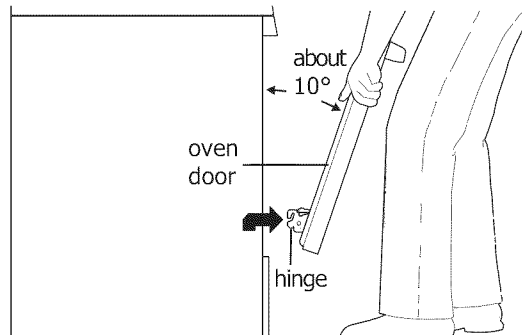
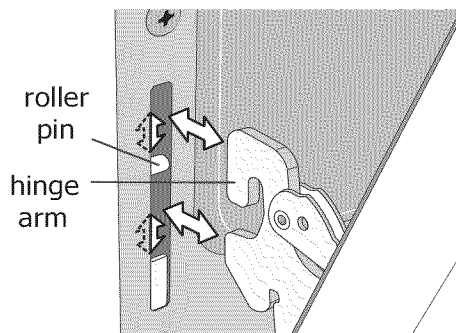

Figure 44: Holding door for removal
Figure 45: Location of hinge arm and roller pin
3. Firmly grasp both sides of oven door along the door sides. Do not use the oven door handle (See Figure 44).
5. Lift the oven door hinge arms over the roller pins located on each side of the oven frame (See Figure 44).
1. Firmly grasp both sides of oven door along the door sides. Do not use the oven door handle (See Figure 44).
2. Holding the oven door at the same angle as the removal position (See Figure 44), seat the hook of the hinge arm over the roller pins located on each side of the oven door frame (See Figure 45). The hook of the hinge arms must be fully seated onto the roller pins.